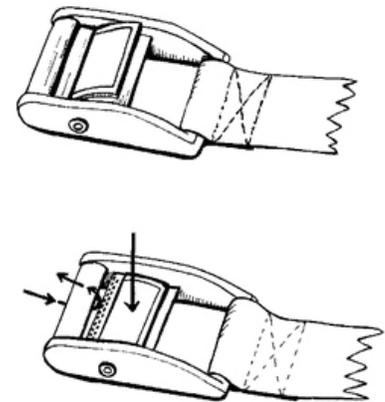

Figure 43
STEP 6: Have one (1) adult place their weight on the bottom ladder rung. Doing so will seat the ladder into the ground. **NOTE:** The bottom ladder rung shall be flush with the ground for safe operation.
STEP 7: With the stabilizer straps with cam buckles installed as outlined, slip the cam buckle with short strap through the loops on the bottom of the stabilizing straps with cam buckles (as shown in Figure 42) and wrap the cam buckle with short strap around the tree trunk as shown in Figure 42. Locate the free end of the stabilizer strap (installed on the ladder bridge) and insert this end into the cam buckle on the cambuckle with short strap as shown in Figure 42. Thread the cam buckle as shown in Figure 43 and cinch the stabilizing strap tight. Make certain the cam buckle strap is not twisted and is tight. With the cambuckle with short strap installed on the tree and tightened, and while standing on the ground, pull the two (2) stabilizing straps with cam buckles tight. Do not over-tighten.